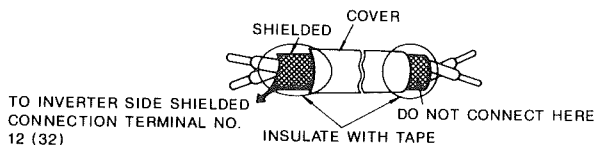

Fig. 3 Preparation of Shielded Cable Ends
- (1) Separate PAO08 control signal wiring (terminals TD1 to TD3) from main circuit wiring or other power lines.
- (2) Use shielded cable for control signal wiring and prepare the ends as shown in Fig. 3 to prevent malfunctions caused by noise. Wiring length must be 50m or less.